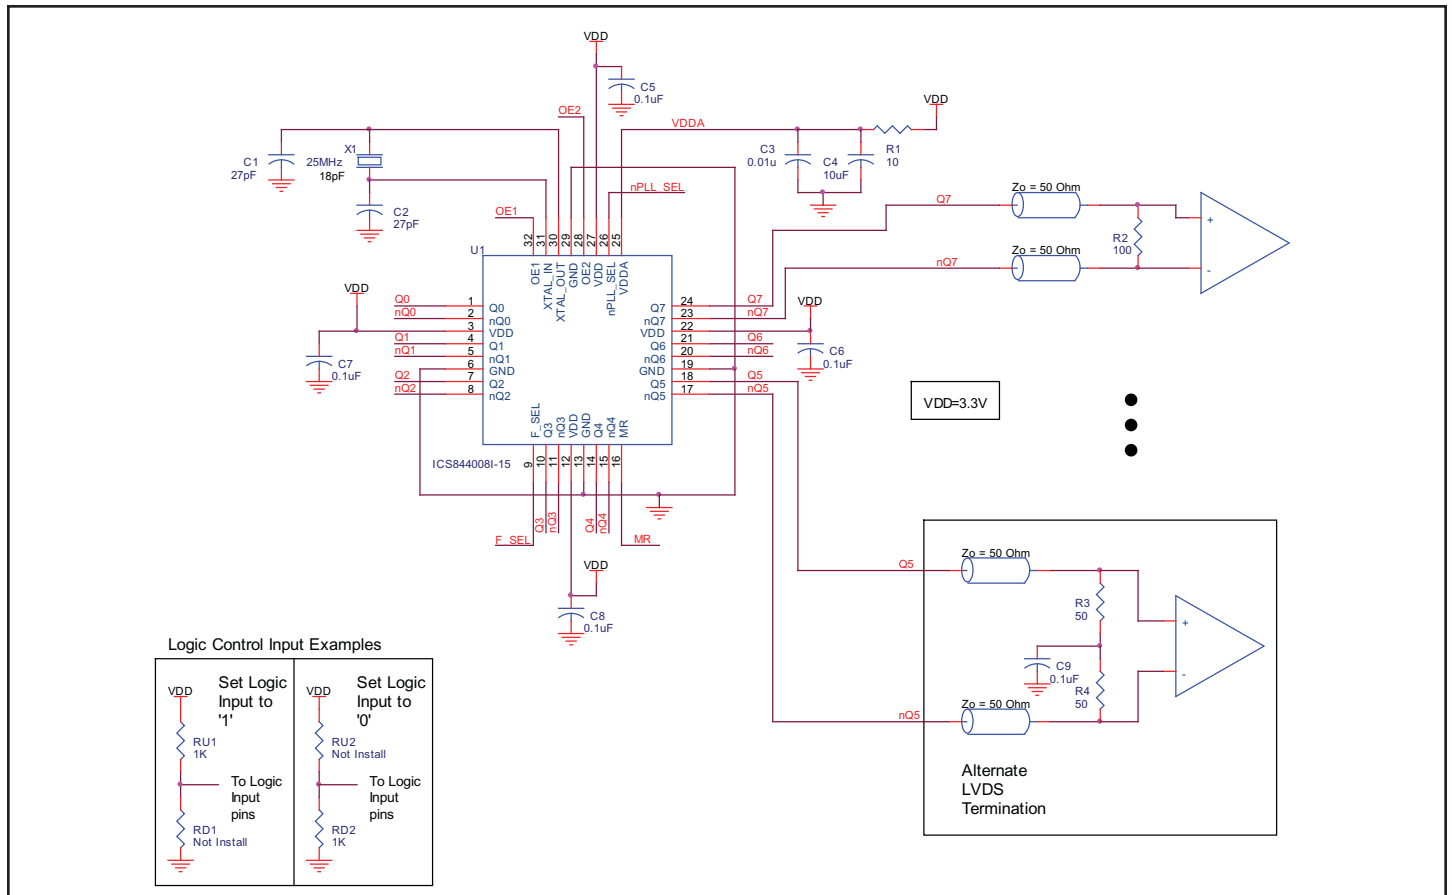

FIGURE 4. 8440081-15 SCHEMATIC EXAMPLE
*Figure 4* shows an example of 8440081-15 application schematic. In this example, the device is operated at  $V_{DD}=3.3V$ . The 18pF parallel resonant 25MHz crystal is used. The  $C1 = 27pF$  and  $C2 = 27pF$  are recommended for frequency accuracy. For